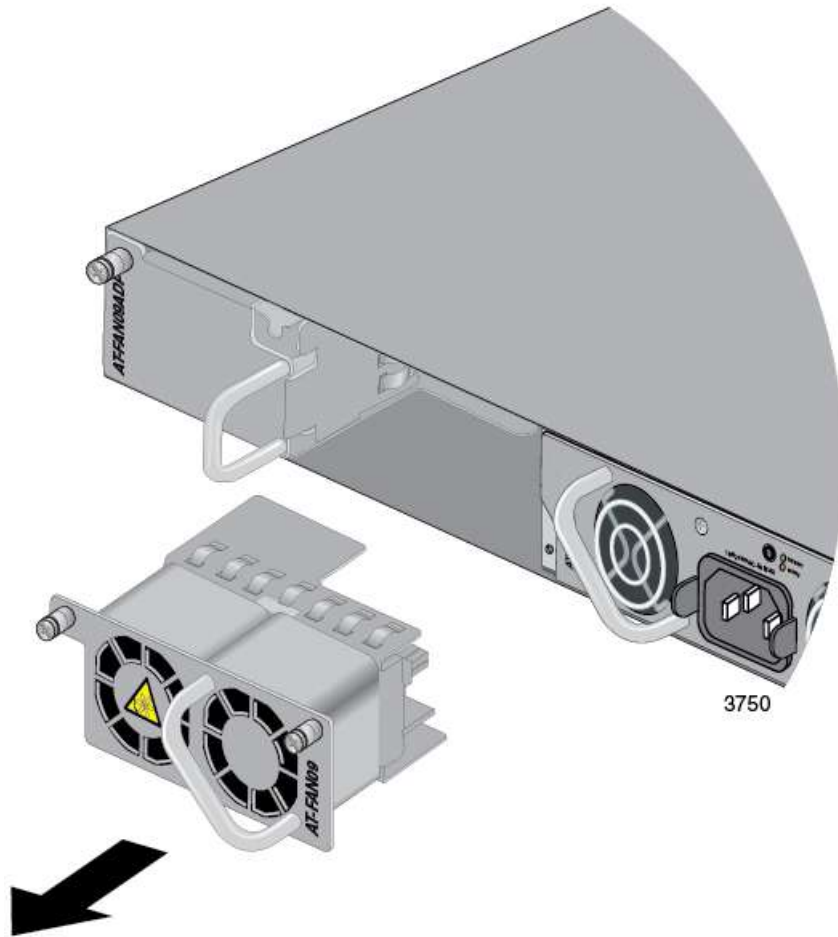

Figure 29. Removing the AT-FAN09 Module
4. Carefully pull the AT-FAN09 Module from the switch. Refer to Figure 29 on page 79.